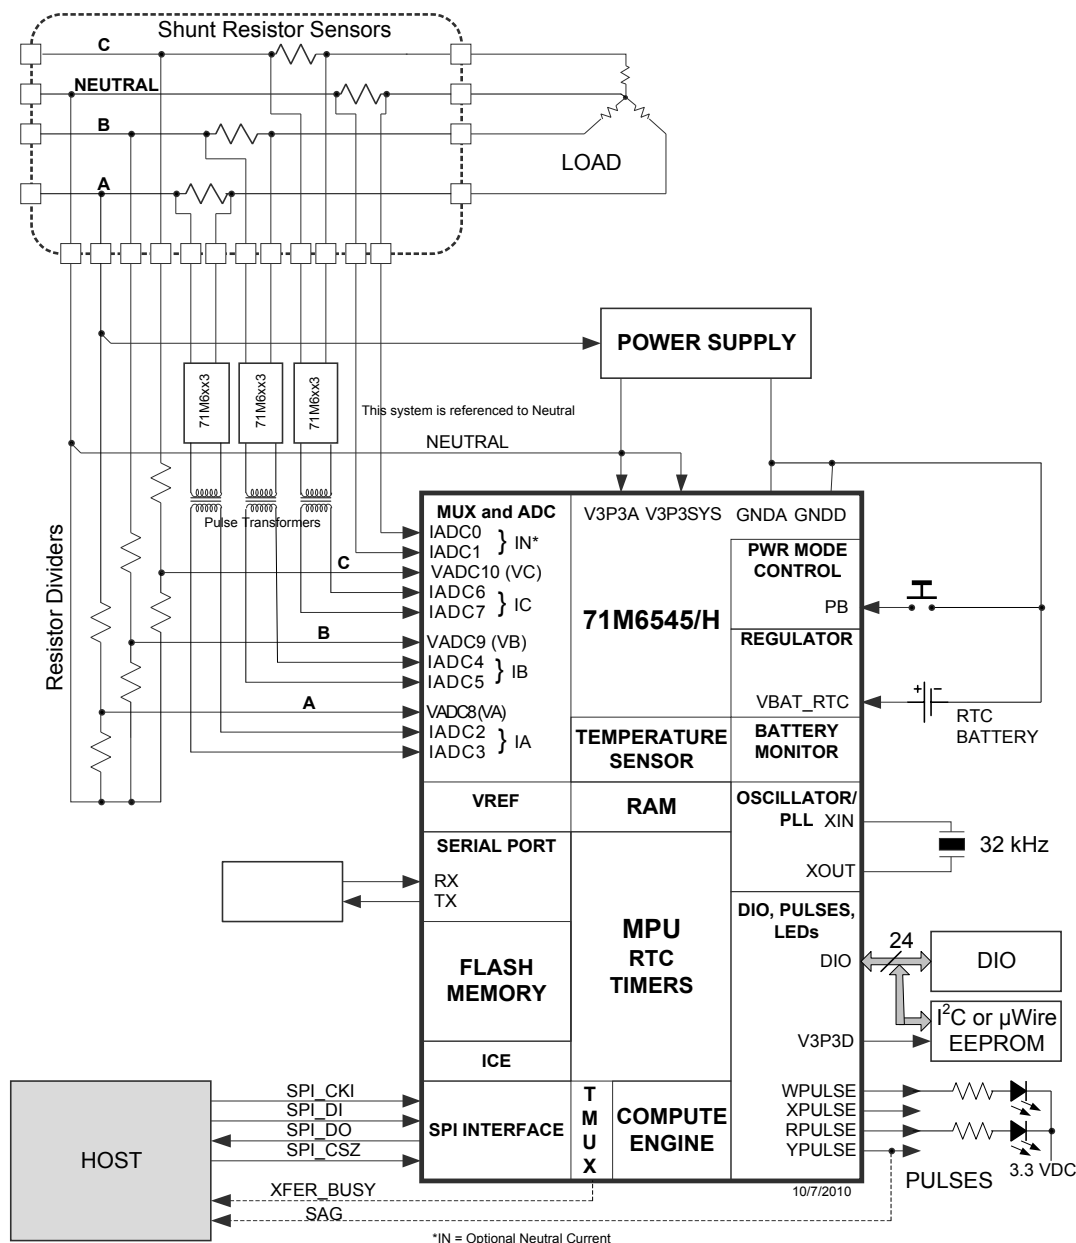

Figure 27: System Using Three-Remotes and One-Local (Neutral) Sensor
Figure 27 shows a typical connection for current shunt sensors; using the 71M6xx3 (poly-phase) isolated sensors. Note that one shunt current sensor is connected without isolation, which is the neutral current sensor in this example (connected to pins IADC0-IADC1). Each 71M6xx3 device is electrically isolated by a low-cost pulse transformer. The 71M6545/H current sensor inputs must be configured for remote sensor communications, as described in 2.2.8. Flexible remapping using the I/O RAM registers $MUXn_SEL[3:0]$ allows the sequence of analog input pins to be different from the standard configuration (a corresponding CE code must be used). See Figure 2 for the AFE configuration corresponding to Figure 27.
This section discusses metrology temperature compensation for the meter designs where current shunt sensors are used in conjunction with the 71M6xx3 remote isolated sensors, as shown in Figure 27.
Referring to Figure 27, the VADC8 (VA), VADC9 (VB) and VADC10 (VC) voltage sensors are always directly connected to the 71M6545/H. Thus, the precision of the voltage sensors is primarily affected by VREF in the 71M6545/H. The temperature coefficient of the resistors used to implement the voltage dividers
Table 57 shows the five *GAIN_ADJx* equation output storage locations and the voltage or current sensor channels for which they compensate for the 1 Local / 3 Remote configuration shown in Figure 27.
Table 57: GAIN_ADJn Compensation Channels (Figure 2, Figure 27, Table 1)